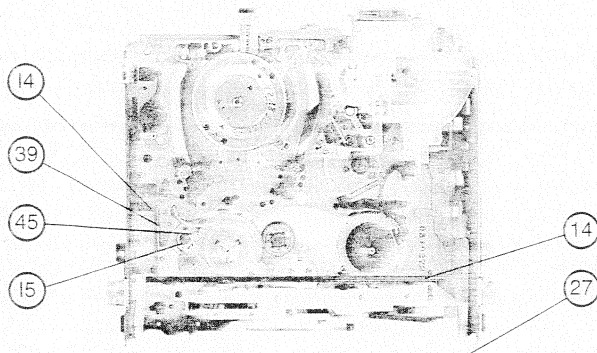

fig. 7
- Den Hebel der Kassettenträgerklappe (27) einsetzen, Abb. 7.
- Whilst holding the levers, gently push the cassette holder back, so that the back pins go into runners as shown in figure 7.
(Abb. 7 und 8)
(fig. 7 and 8)